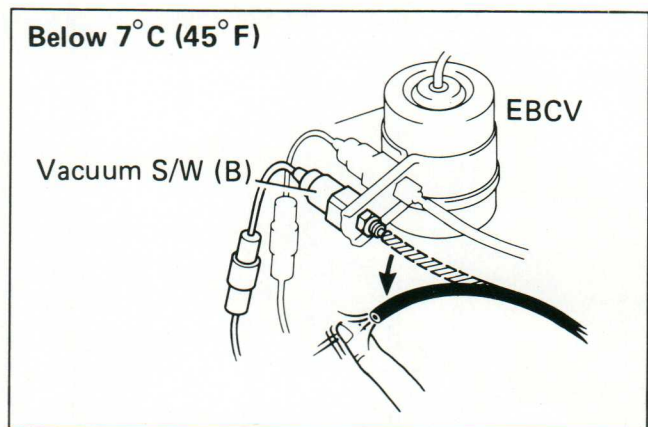

Figure 248-4
1. **Check the TVSV with a cold engine** (Figure 248-4).